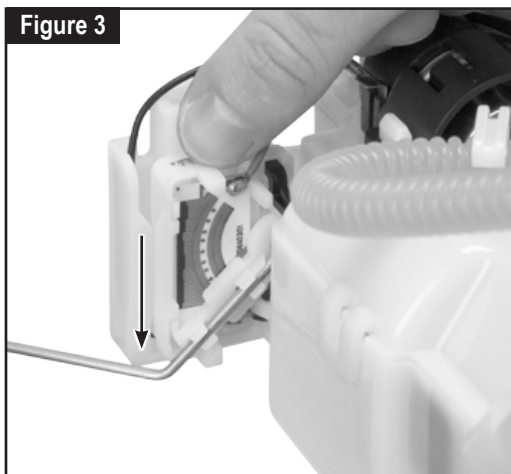

Figure 3
5. Gently press down on the rheostat plastic cover until the assembly is completely at the bottom of support (figure 3)